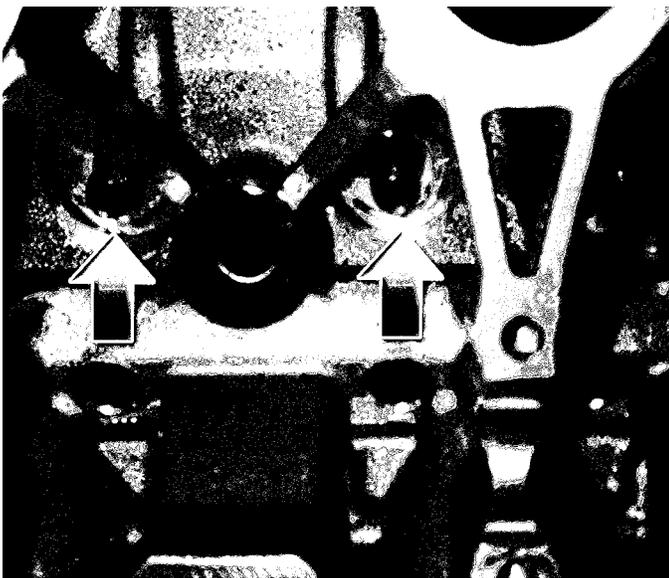

Figure 22
- The valve spring seat pockets have been machined down by .040" on the intake and .060" on the exhaust (Fig. 22). The diameter of the seats must be 1.150".